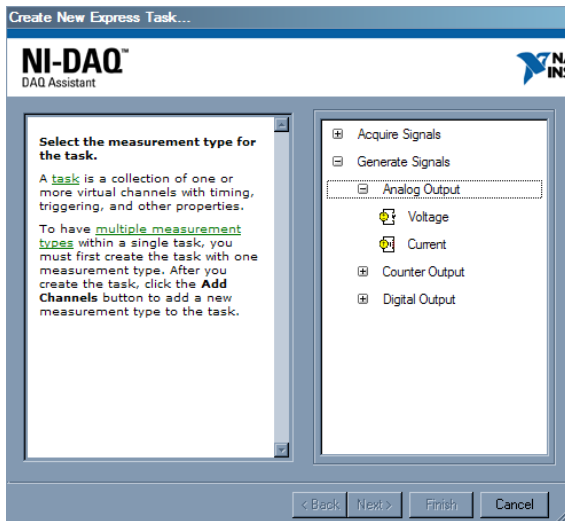
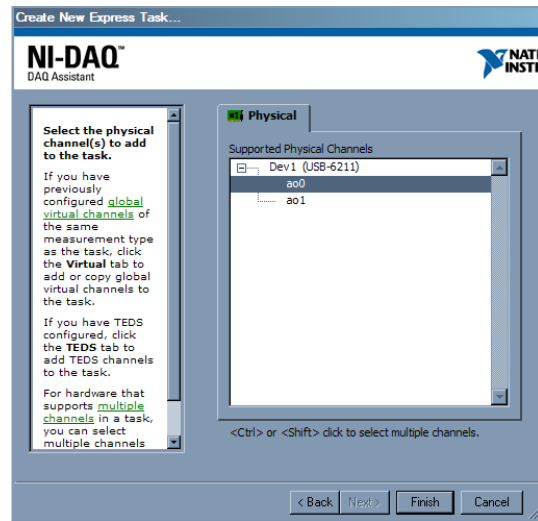

Figure 2A: DAQ Assistant Welcome Screen
Figure 2B: The USB-6211 hardware is listed
Step 2: Double-clicking the DAQ Assistant control in the block diagram will invoke the screen (Figure 2A). Choose Analog Output and then select Voltage. This will invoke the screen in Figure 2B. Note that USB-6211 (the NI-DAQ hardware board) is listed under the “My Physical Channels” tree. Choose ao0 (analog output channel 0).